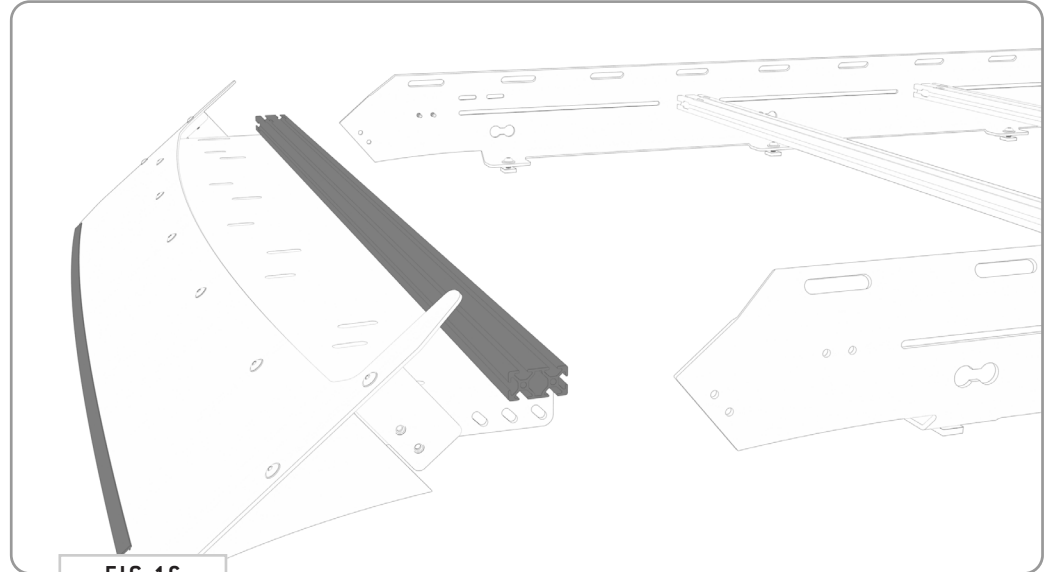
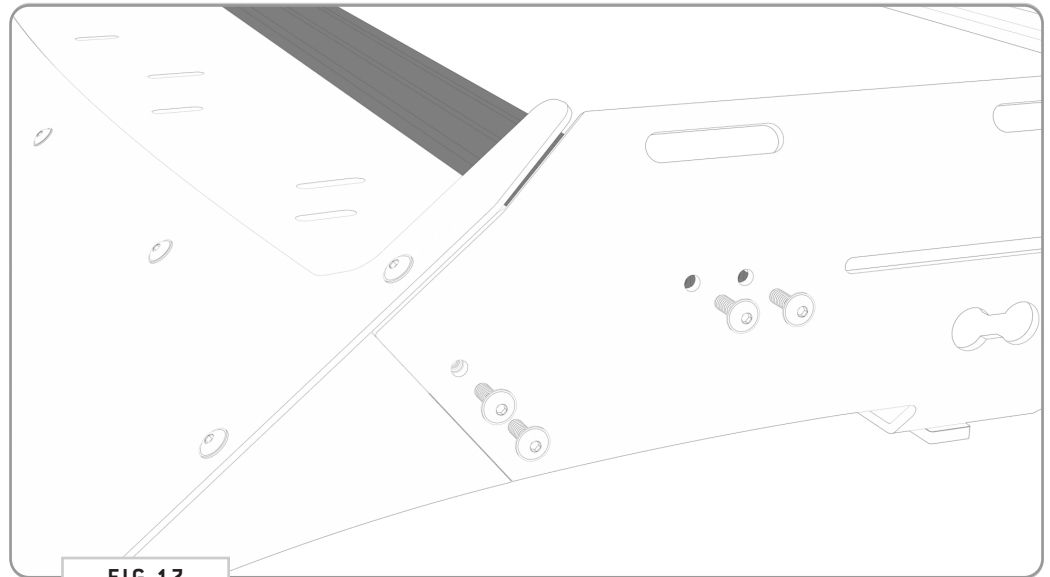

FIG 16
FIG 17
5.1 Fairing Install: Now you're ready to attach the fairing to the roof rack. Slide it in from the front and into the location shown in **FIG 16**. Tighten down using **(8) 1/4-20" Flange Head Screws (FIG 17)**.